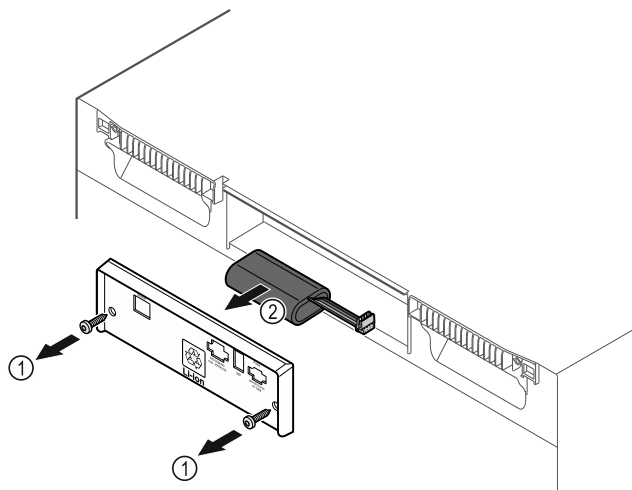

Fig. 238
- ▶ Unscrew screws and remove cover from the back of the appliance Fig. 238 (1).
- ▶ Disconnect and remove battery Fig. 238 (2).